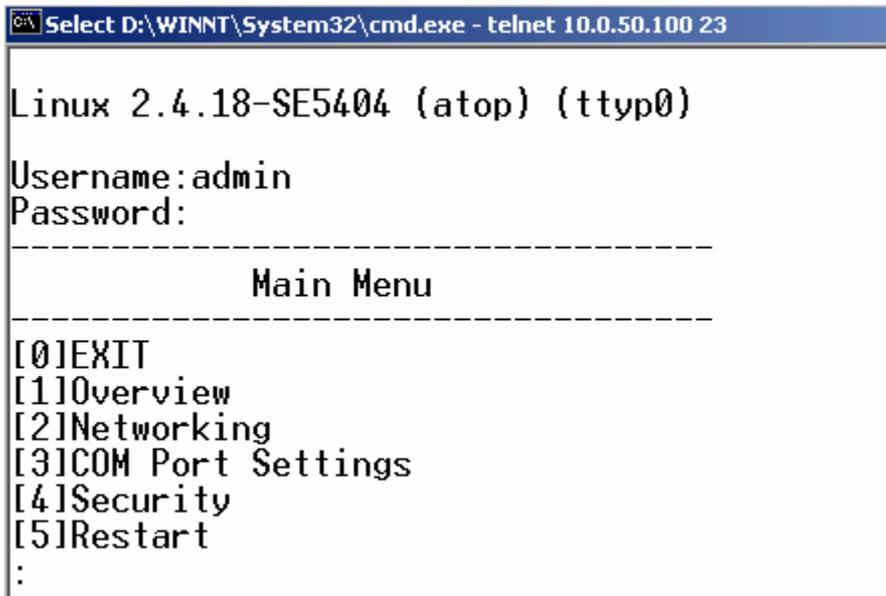

Figure 3.5 System main menu
1. Then the following main menu shall appear ( Figure 3.5)